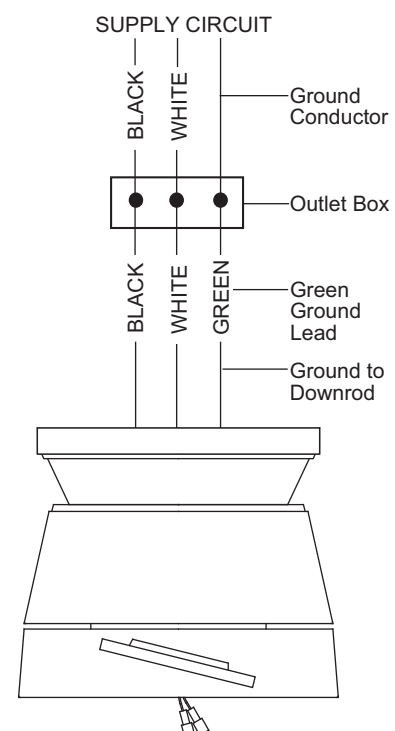

Figure 9
Step 1 Connect the fan supply (black) wire to the black household supply wire as shown in Figure 9.